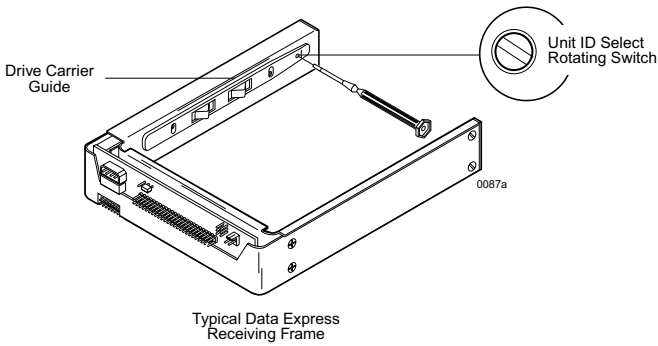

Figure 9: Unit ID Select Switch Location
- **Unit ID Number Indicator** - This BLUE LED displays the status of the SATA DE110 device carrier if the carrier is *Installed and Locked* in the receiving frame *or* if the carrier is *removed* from the receiving frame. If the carrier is *Installed but not Locked* in the receiving frame, a "u" will be displayed to indicate an unlocked condition. The unit ID number is selected by means of the unit ID select switch inside the receiving frame using a special alignment tool supplied with the SATA DE110 (Figure 9).
3. Use the alignment tool supplied with the SATA DE110 to select the ID number of the disk drive. Refer to Figure 9 for the location of the ID Select Switch inside the receiving frame.